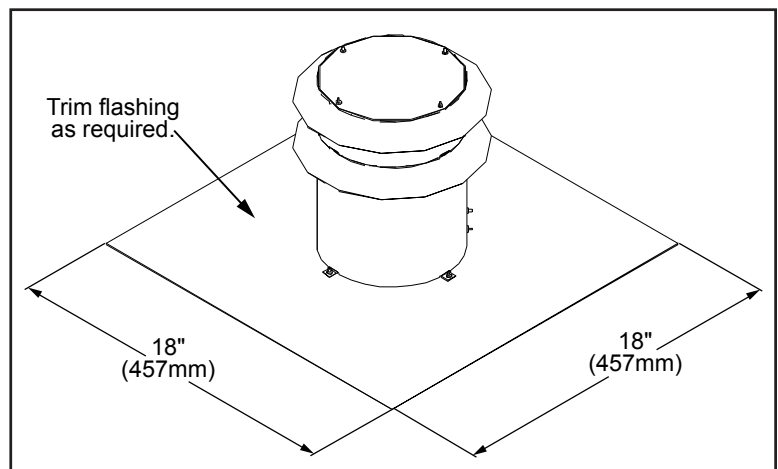

Figure 41: Vertical Vent Cap Dimensions.
4. The Vertical Vent Cap can be installed onto chimneys with flue openings up to 16" (406mm) x 16" (406mm) and the actual flashing is 18"x18" (refer to Figure 41). If the chimney is smaller the cap should be trimmed down and folded over.
5. Apply a bead of Mill-Pac Black sealant to the top section of the Ø3" (76mm) vent collar plate. Slide the Ø3" (76mm) flex vent over the flue collar and secure with three (3) sheet metal screws evenly spaced.